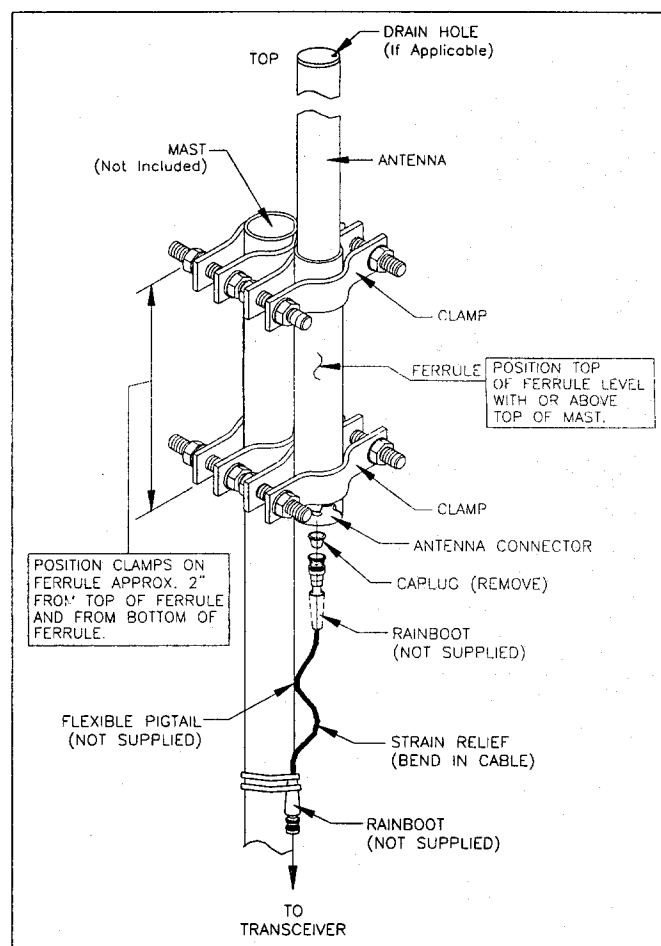

Figure 4. Upright Mounting of Antenna.
1. **For upright mount only:** (When applicable) Remove the drain plug screw located beside the connector at the base of the antenna. The drain hole must remain clear of any obstructions. Do not remove the drain plug screw at the top of the antenna (Figure 4). Proceed to step 3.
2. **For inverted mount only:** (When applicable) Remove the drain plug screw located at the top of the antenna (Figure 4). The drain hole must remain clear of any obstructions. Do not remove the drain plug screw located beside the connector at the base of the antenna. Proceed to step 3.